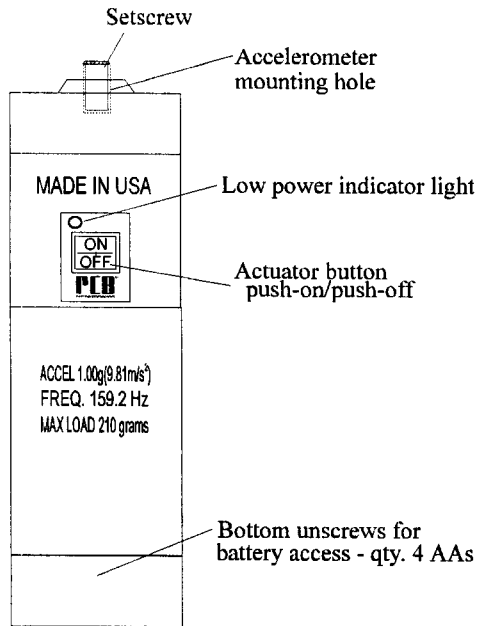

Figure 1. Model 394B06 Handheld Calibrator
The Model 394C06 Handheld Shaker is a small, handy, completely self-contained vibration reference source. It is intended for rapid checking of vibration measurement, monitoring, and recording systems using piezoelectric accelerometers, as well as other types of vibration transducers having a maximum mass of 210 grams. See Figure 1.
A flat mounting plate is also supplied for mounting accelerometers with Petro Wax or other adhesives. Connect the accelerometer to the vibration level indicating instrument and activate the shaker by pushing the ON/OFF button on the side of the shaker. See Figure 1.
- **Low power indicator.** A low power indicator light is located above the ON/OFF switch. See Figure 1. This light glows when the available power is marginally adequate to drive the shaker (with the mass on the shaker). This indicator does not signify erroneous data. If the Model 394C06 cannot obtain 1 g at 159.2 Hz, then the unit shuts off. The low power indicator signifies an imminent inability to drive the mass on the shaker. The test sensor is too